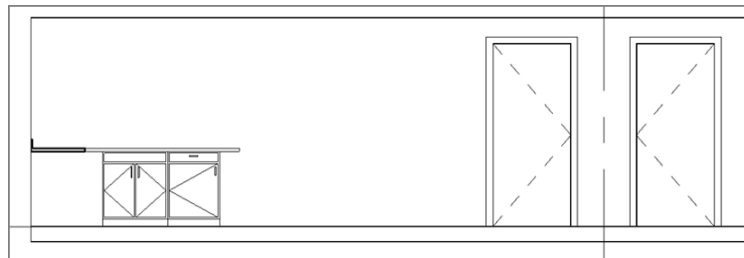

FIGURE 9.56: The elevation of the cabinet run
4. Press Esc twice, or click Modify; then open the Kitchen North elevation. Does your elevation look like Figure 9.56?